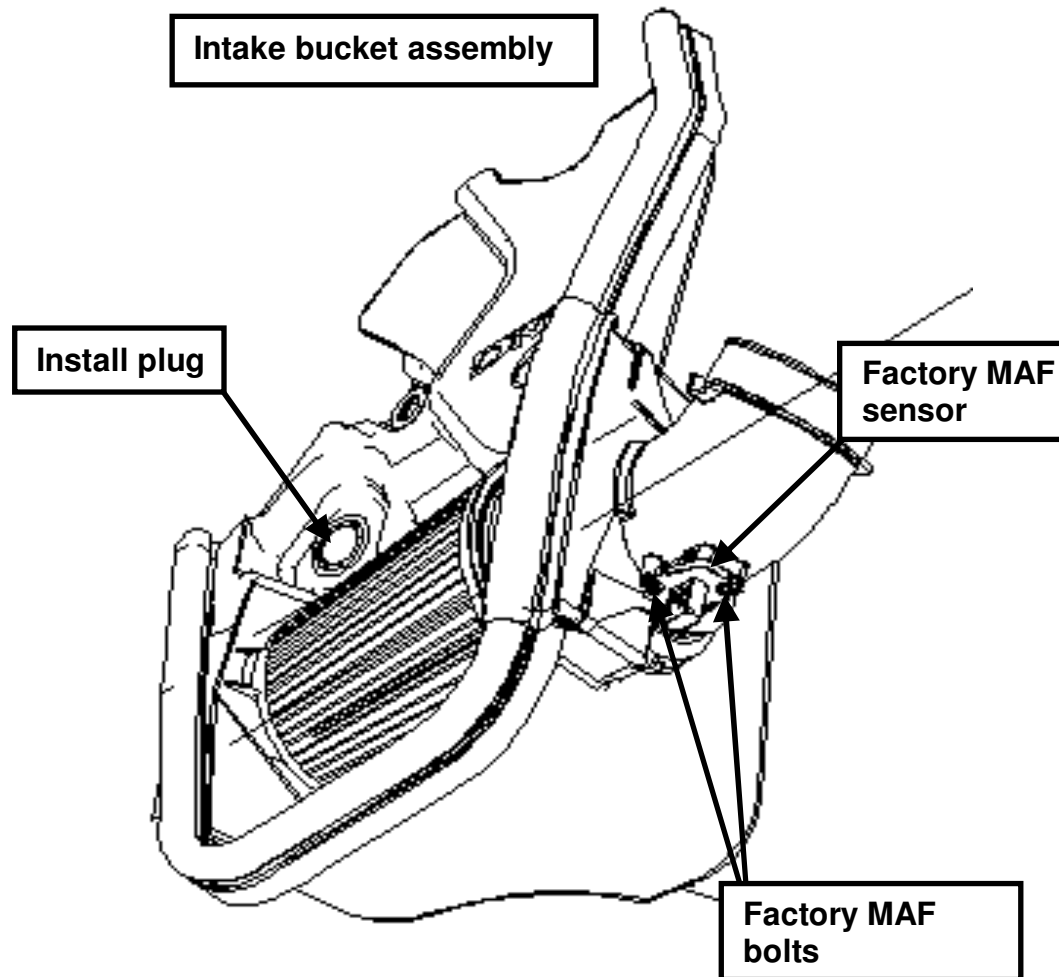

Fig. 4
STEP 1: Install the MAF sensor using the bolts Item #8 into the new air intake bucket assembly. Torque the bolts to 4 Nm (35 lb in) (See Fig. 4).